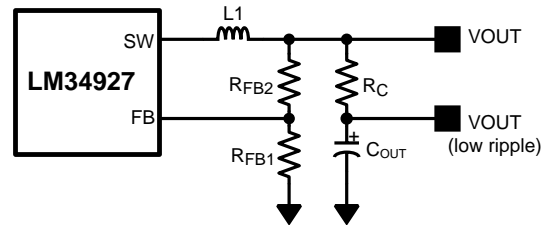

Figure 5. Low Ripple Output Configuration
This regulator regulates the output voltage based on ripple voltage at the feedback input, requiring a minimum amount of ESR for the output capacitor (C_{OUT}). A minimum of 25mV of ripple voltage at the feedback pin (FB) is required for the LM34927. In cases where the capacitor ESR is too small, additional series resistance may be required (R_C in Figure 5 Low Ripple Output Configuration).
For applications where lower output voltage ripple is required the output can be taken directly from a low ESR output capacitor, as shown in Figure 5 Low Ripple Output Configuration. However, R_C slightly degrades the load regulation.